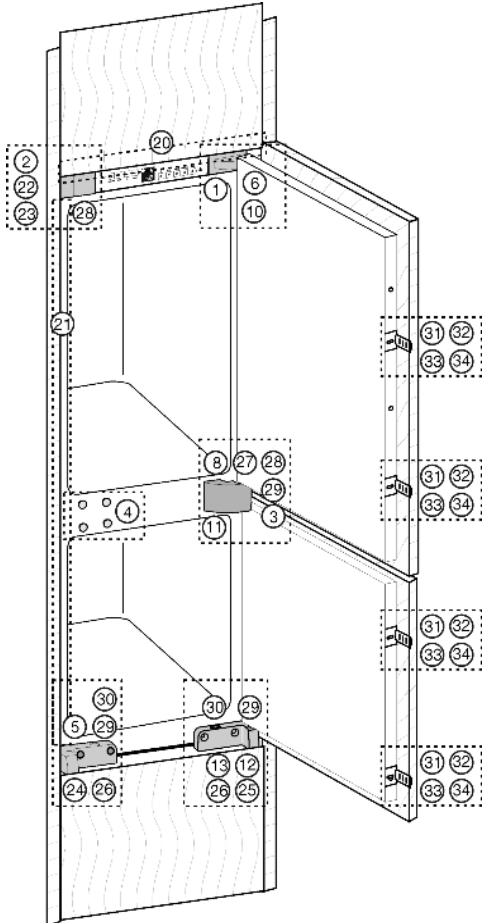
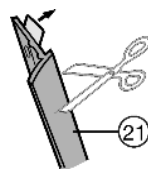
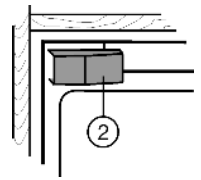

Fig. 6
Fig. 9
Fig. 10
- ▶ Stick trim Fig. 9 (21) onto the side of the appliance on the handle side flush with the front: remove protective film and affix trim.
- ▶ Shorten trim Fig. 9 (21) to the height of the recess, if necessary.
- ▶ Apply trim Fig. 9 (21) exactly underneath the mounting bracket Fig. 6 (22).
- ▶ Remove Fig. 10 (2) cover. For initial installation:
- ▶ Remove cover Fig. 6 (3) from the middle bearing support Fig. 10 (11).